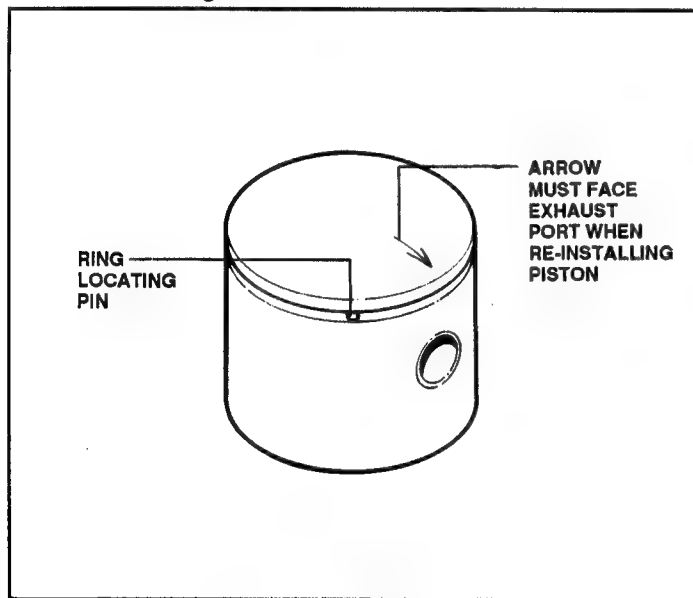

FIGURE 33
3. Be certain to include metal inserts when reinstalling shield. **NOTE:** Exhaust outlet on plastic shield allows for spark arrestor screen to be serviced without removal. Refer to Figure 33.
3. The piston has a ring locating pin. Be certain that the ring end gap fits around the pin during assembly. The arrow on the piston dome **MUST** face the exhaust port. Lightly coat a new piston/cylinder with 32:1 fuel mixture oil prior to assembly. See Figure 33.